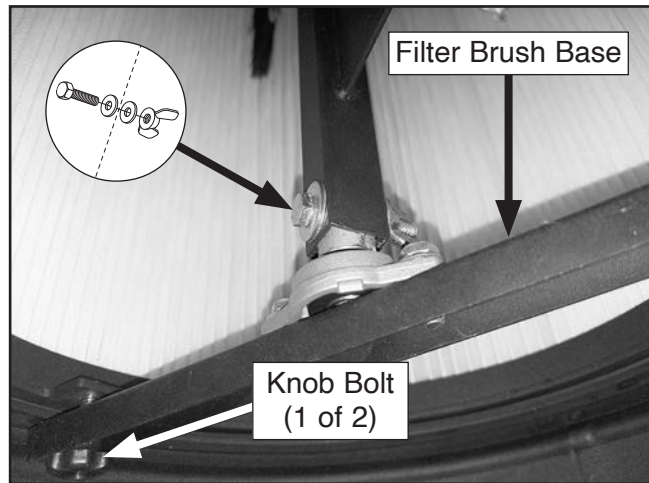

Figure 83. Filter brush base attached to filter brush assembly and canister filter assembly.
13. Secure canister filter assembly to machine body using (3) knob bolts loosened in **Step 7**.
14. Attach filter brush base to filter brush assembly and canister filter assembly using fasteners removed in **Step 6** (see **Figure 83**).